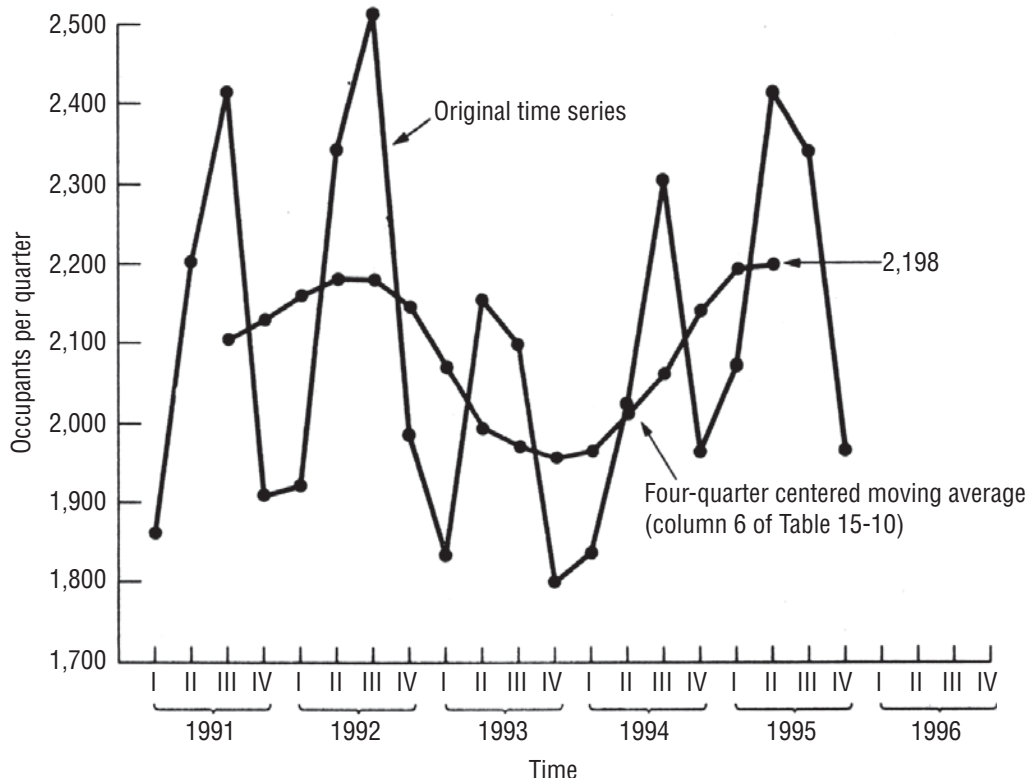

FIGURE 15-7 USING A MOVING AVERAGE TO SMOOTH THE ORIGINAL TIME SERIES
- In the third step, we center the 4-quarter moving average.** The moving averages in column 5 all fall halfway between the quarters. We would like to have moving averages associated with each quarter. In order to *center* our moving averages, we associate with each quarter the average of the two 4-quarter moving averages falling just above and just below it. For the 1991-III quarter, the resulting **4-quarter centered moving average** is 2,104.25, that is, $(2,096.75 + 2,111.75)/2$. The other entries in column 6 are calculated the same way. Figure 15-7 illustrates how